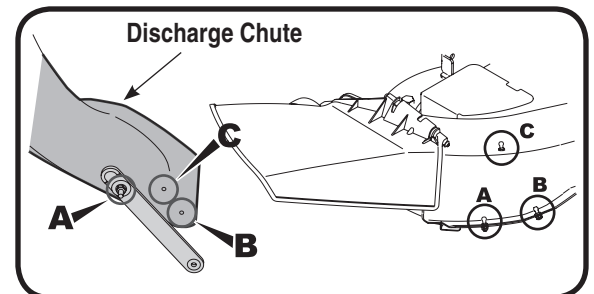

Figure 23
The retainer strap is fitted at position A on the discharge chute. However, on older models of tractors, you will have to change the position of the strap depending on the location of the grass catcher pin on the deck. Remove the retainer strap from position A on the discharge chute to position B or C corresponding to the position of the grass catcher pin at A, B or C on the deck. See Figure 23.
4. You will then need to position the retainer strap on the discharge chute to correspond with the hole and pin. See Figure 23 for retainer strap positioning.
**NOTE:** *The retainer strap is fitted at position A on the discharge chute. However, on older models of tractors, you will have to change the position of the strap depending on the location of the grass catcher pin on the deck. Remove the retainer strap from position A on the discharge chute to position B or C corresponding to the position of the grass catcher pin at A, B or C on the deck. See Figure 23.*